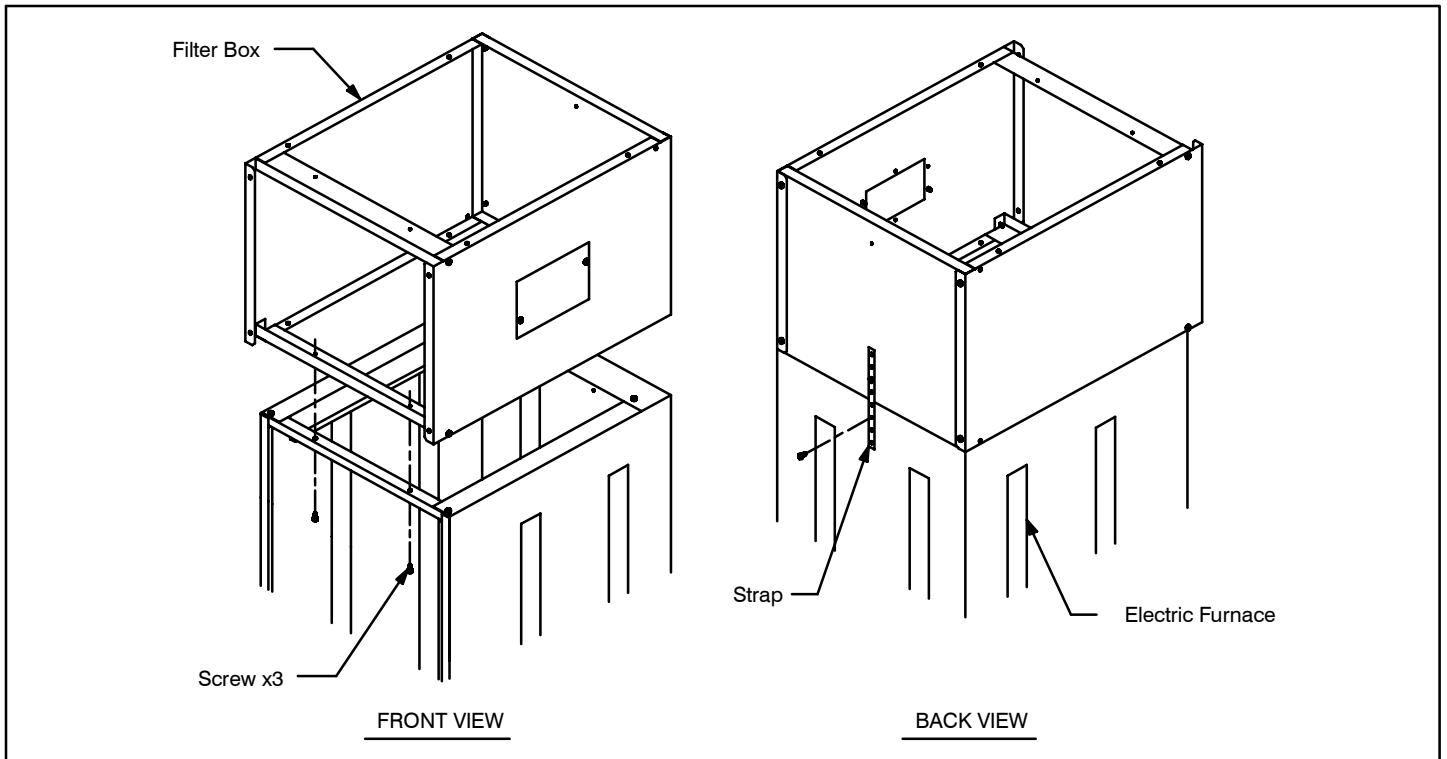

Figure 2 – Attachment of Filter Box to Electric Furnace
2. With the Electric furnace in the *counterflow* position, attach the filter box to the Electric Furnace with two (2) screws as shown in Figure 2. If the Blend Air system is to be used, make sure that the opening in the side panel (used for Blend Air attachment) is located on the appropriate side.
3. Attach the tie down strap to the electric furnace back with one (1) screw as shown in Figure 2.